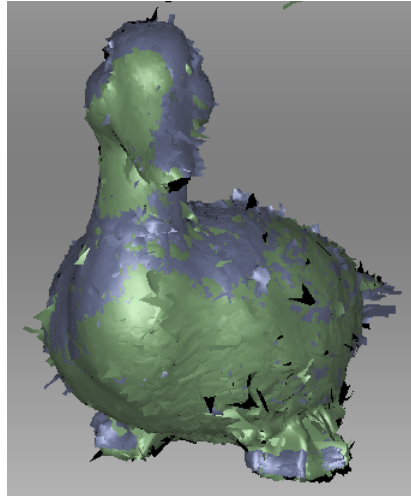

Figure 123: “Drag” alignment result
3. To confirm the alignment, release the mouse button(s) and the `Shift` key, then click *Apply*. Note carefully that any scans you are registering won’t automatically move to the registered set  (see Figure 123). You can do so manually as the Changing Object Status describes.